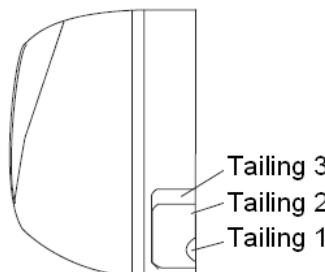

Fig. 12
1. To fix the refrigerating pipes, the condensate drain and the electrical cables from the left or from the right, cut along the special pre-perforated outlines on the sides of the indoor unit (as shown in fig. 12).